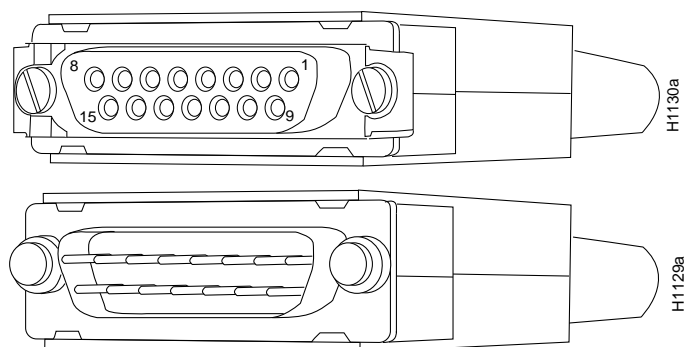

Figure 3-1 Ethernet (AUI) Network and Chassis Connectors
- Ethernet (AUI) network and chassis connectors, Figure 3-1